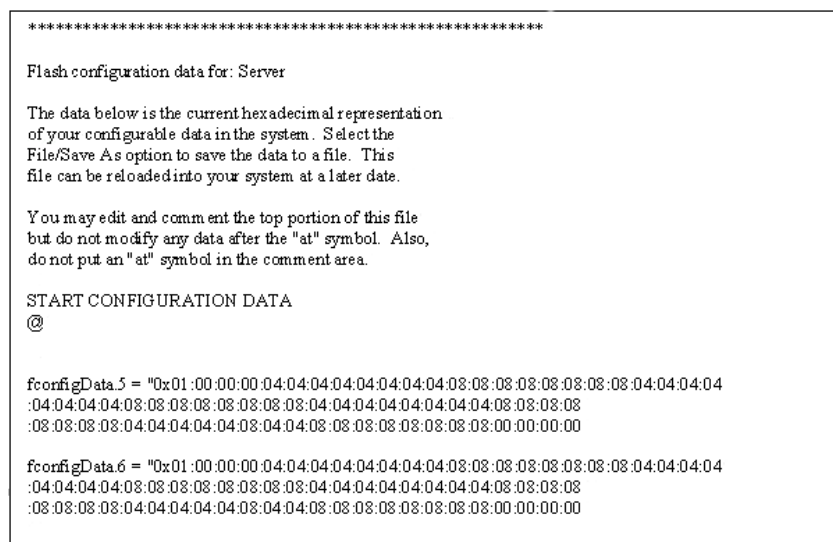

Figure 39. Typical access server flash memory configuration data
- To export the flash configuration, click on the Export Flash link on the Import/Export main page. The access server will display text configuration information resembling that shown in figure 39.